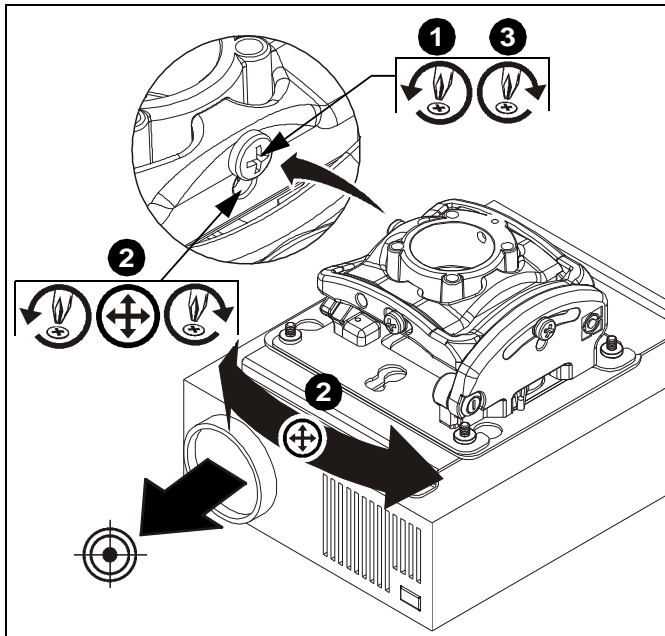

Figure 12
1. Loosen YAW adjustment locking screw using a #2 Phillips screwdriver. (See Figure 12)